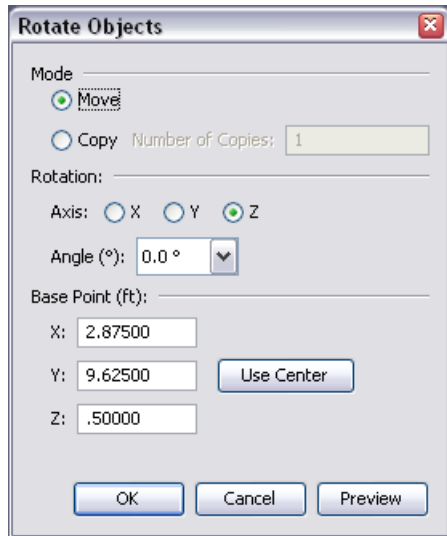

Figure 10.4. The rotate dialog being used to rotate an object
3. This will show the Rotate dialog as in Figure 10.4.